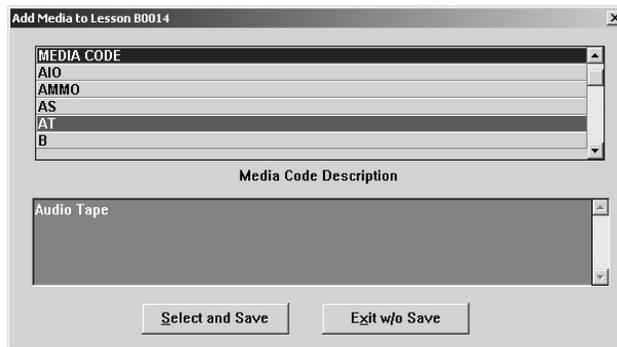

Figure 6-94. Add Media to Lesson
- From the Concept Card Media for Lesson selection list box (Figure 6-86), click on **Add**. The Add Media to Lesson dialog box (Figure 6-94) opens. Note that this listing displays all available media that have not already been added to the concept card.